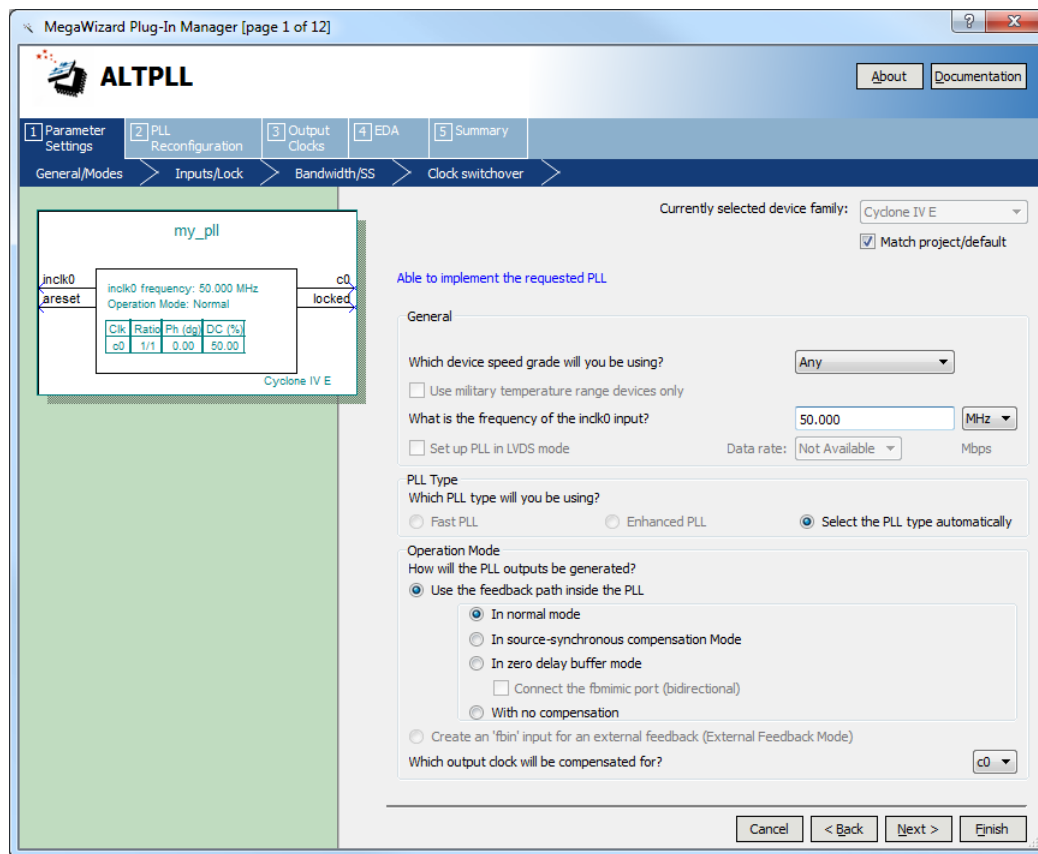

Figure 14. Settings for General/Mode section.
4. Under the **Parameter Settings** tab, set **What is the frequency of the inclk0 input?** to 50 MHz as shown in Figure 14.